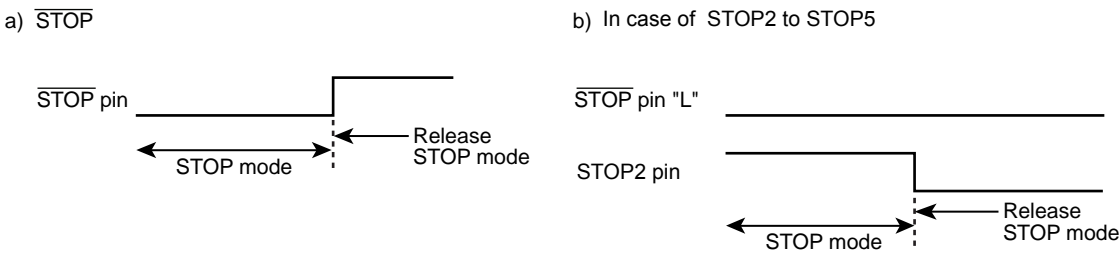

Figure 12-3 Priority of  $\overline{\text{STOP}}$  pin and STOP2 to STOP5 pins
- Note 6: When the STOP mode is released by STOP2 to STOP5 pins, the level of  $\overline{\text{STOP}}$  pin should hold "L" level (Figure 12-3).